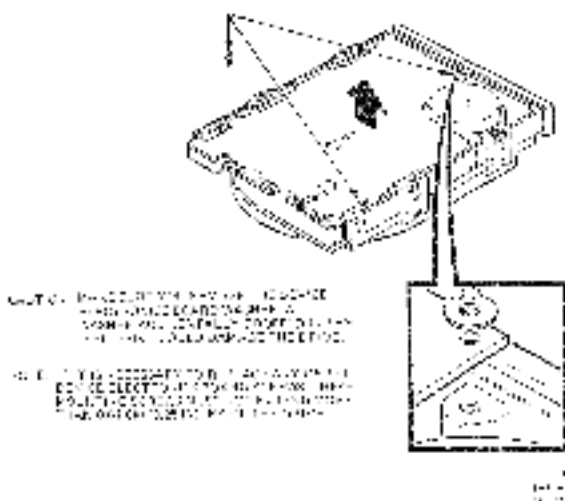

Figure 2-24 Device Electronics Board
1. Use a small-plate screwdriver to remove the three screws that hold the device electronics board to the JIS drive (Figure 2-24).